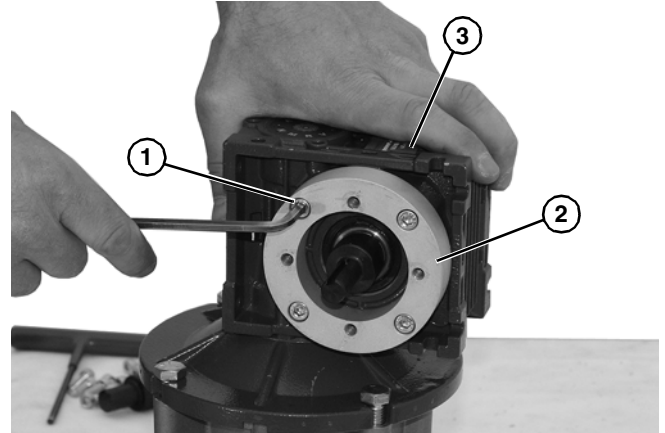

Figure 21
1. Loosen four (4) socket head screws (**Figure 21, item 1**) and detach spacer (**Figure 21, item 2**) from gear reducer (**Figure 21, item 3**).
10. Install spacer (Figure 21, item 2) onto gear reducer (Figure 21, item 3) with four (4) socket head screws (Figure 21, item 1).